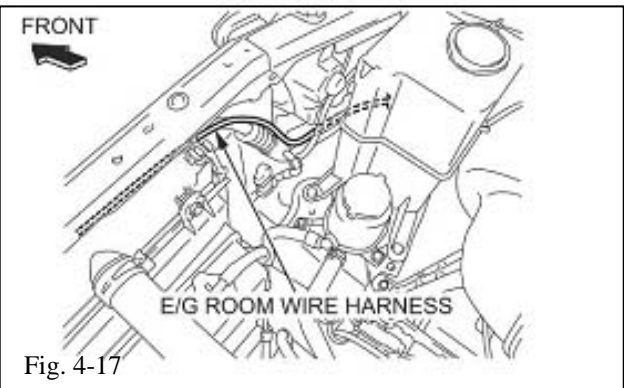

Fig. 4-17
- (r) Route the E/G R W along the vehicle wire harness in front of the radiator and under the washer tank. (Fig. 4-17 and Fig. 4-18)